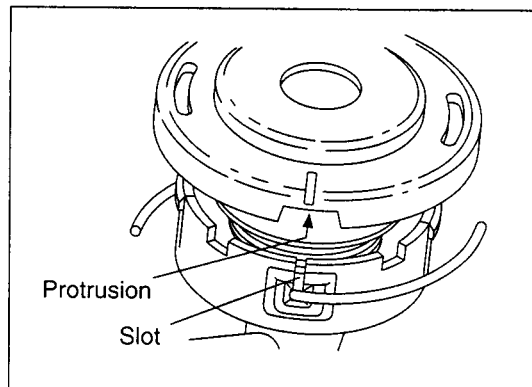

Fig. 28
7. Align the protrusions on the underside of the cover with the slots of the eyelets. Then push the cover firmly onto the housing to secure it (Fig. 28).